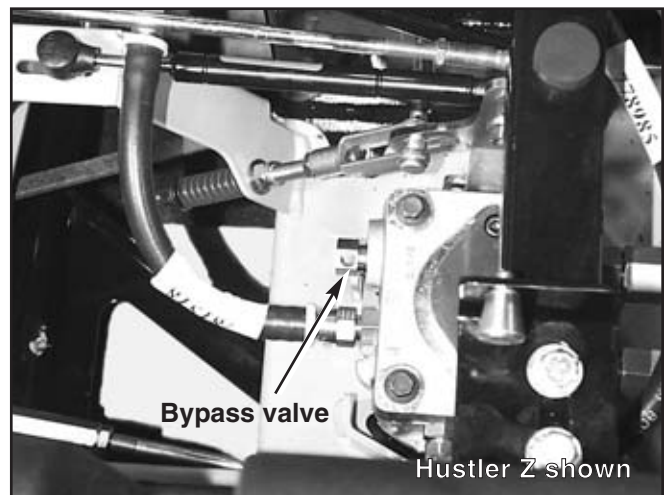

Figure 5-7
3. Open the hydraulic pump's bypass valve (Fig. 5-7 & 5-8), on the side that is being adjusted, by turning bypass valves counter clockwise one-half to one revolution. The valve stems on each hydraulic pump are located